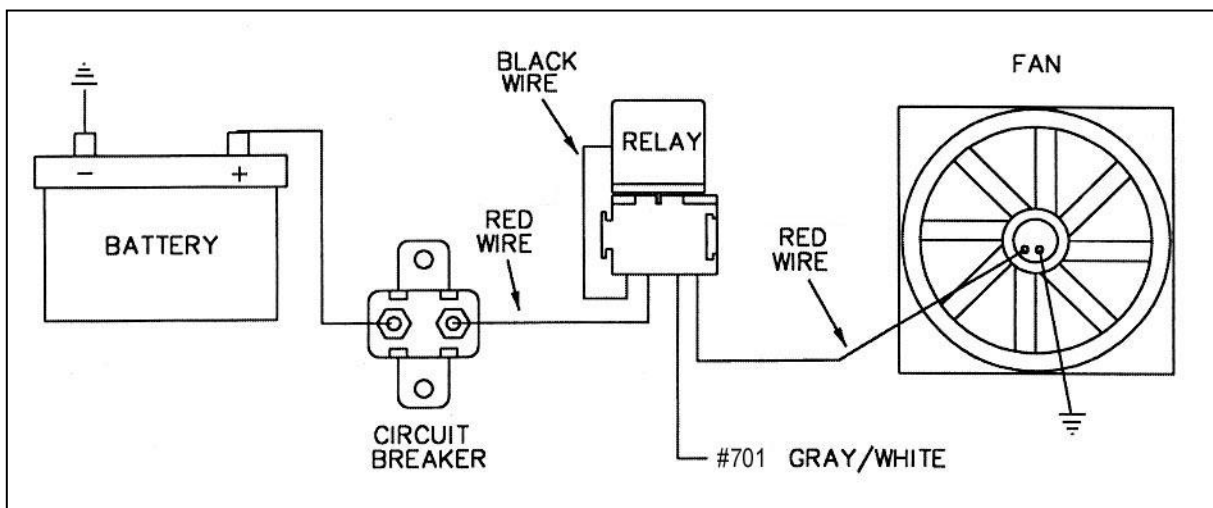

Figure 7.7 Fairness Fan Relay Kit (Part #30101)
- 7.6.4** Connect HEADLIGHT SECTION A wire #701 (gry/wht) to the Electric Fan Relay. This wire is an activation wire for the relay, **NOT A POWER FEED**. The other end of wire #701 is in the ACCESSORY SECTION SWITCHES and should be connected to the electric fan switch in the dash. **Figure 7.7** shows a typical fan relay installation.